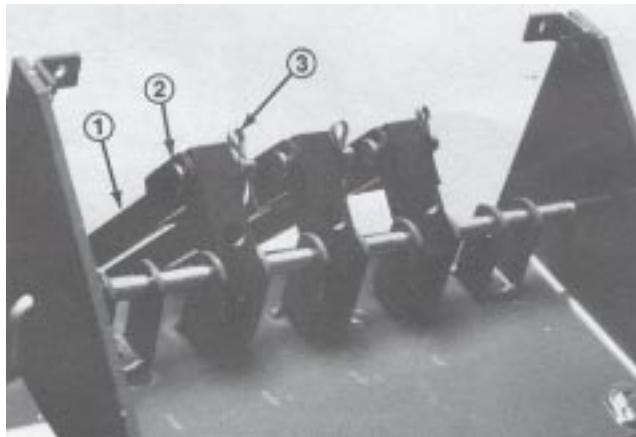

Figure 7
- Secure upper control linkage tubes to pivot blocks with clevis pins and cotter pins (Fig. 7). Coat pins with #2 gun grease.